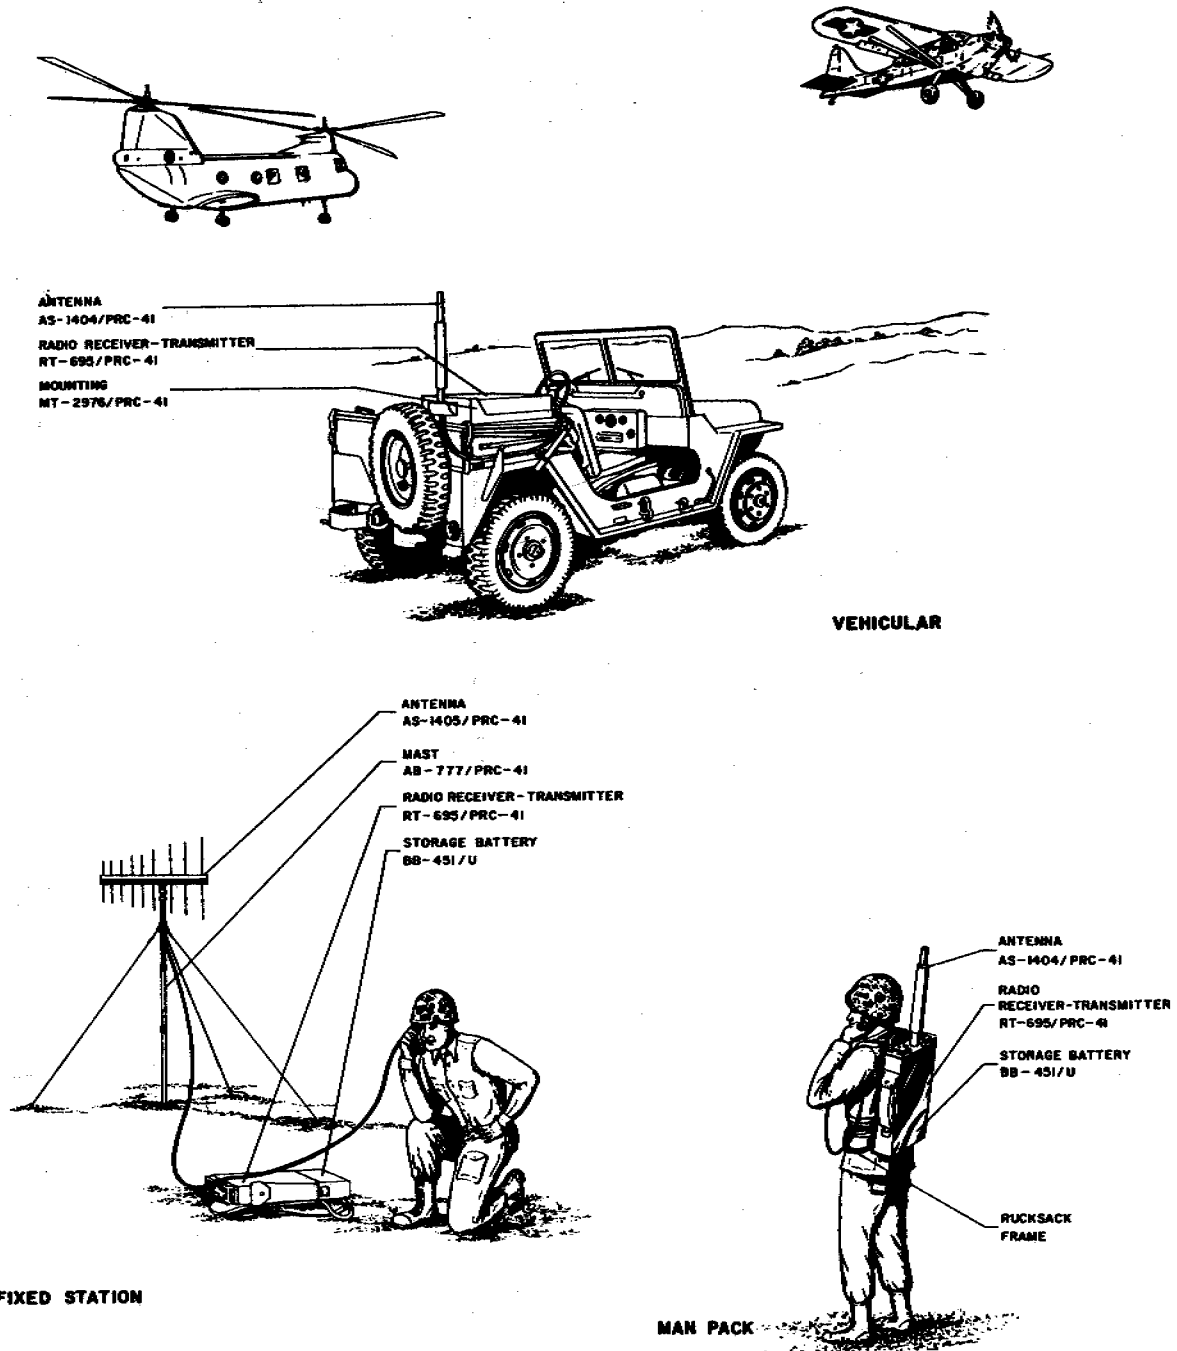
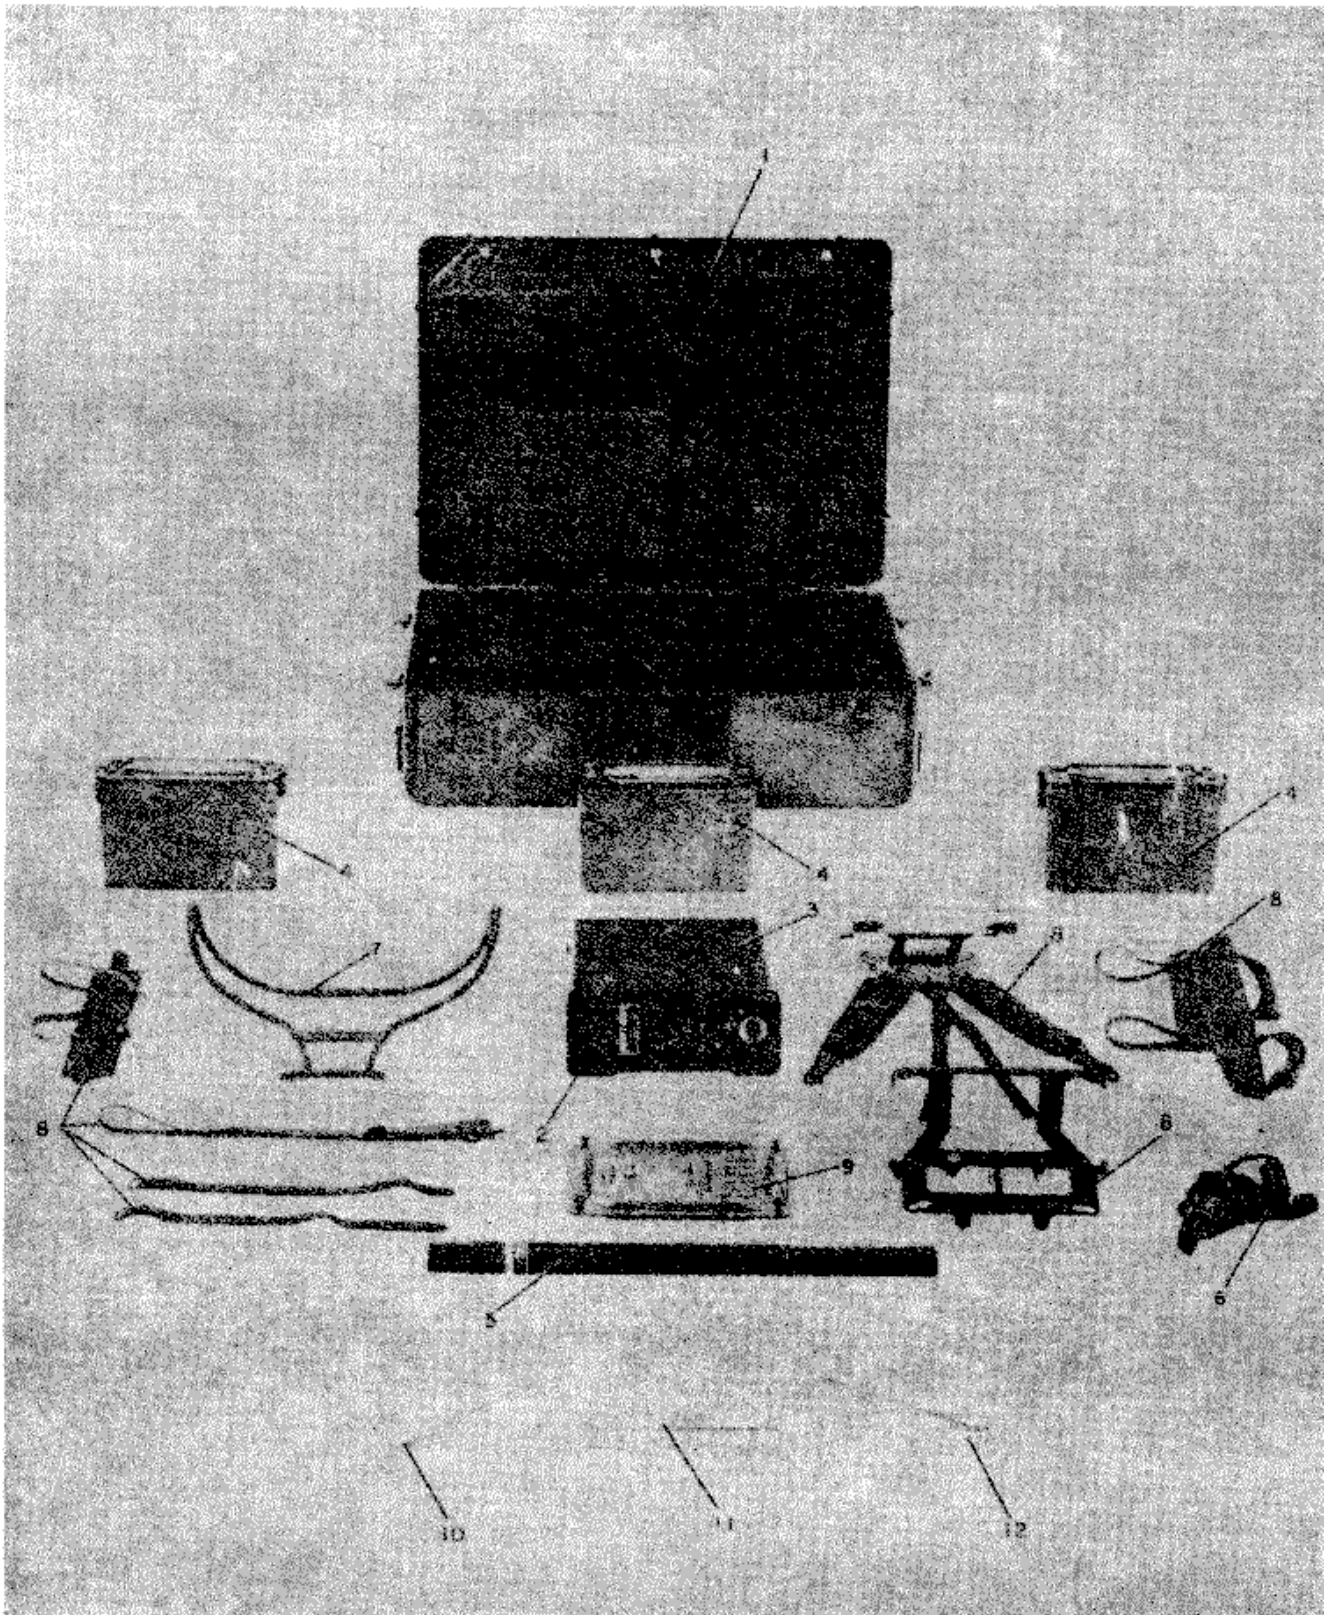
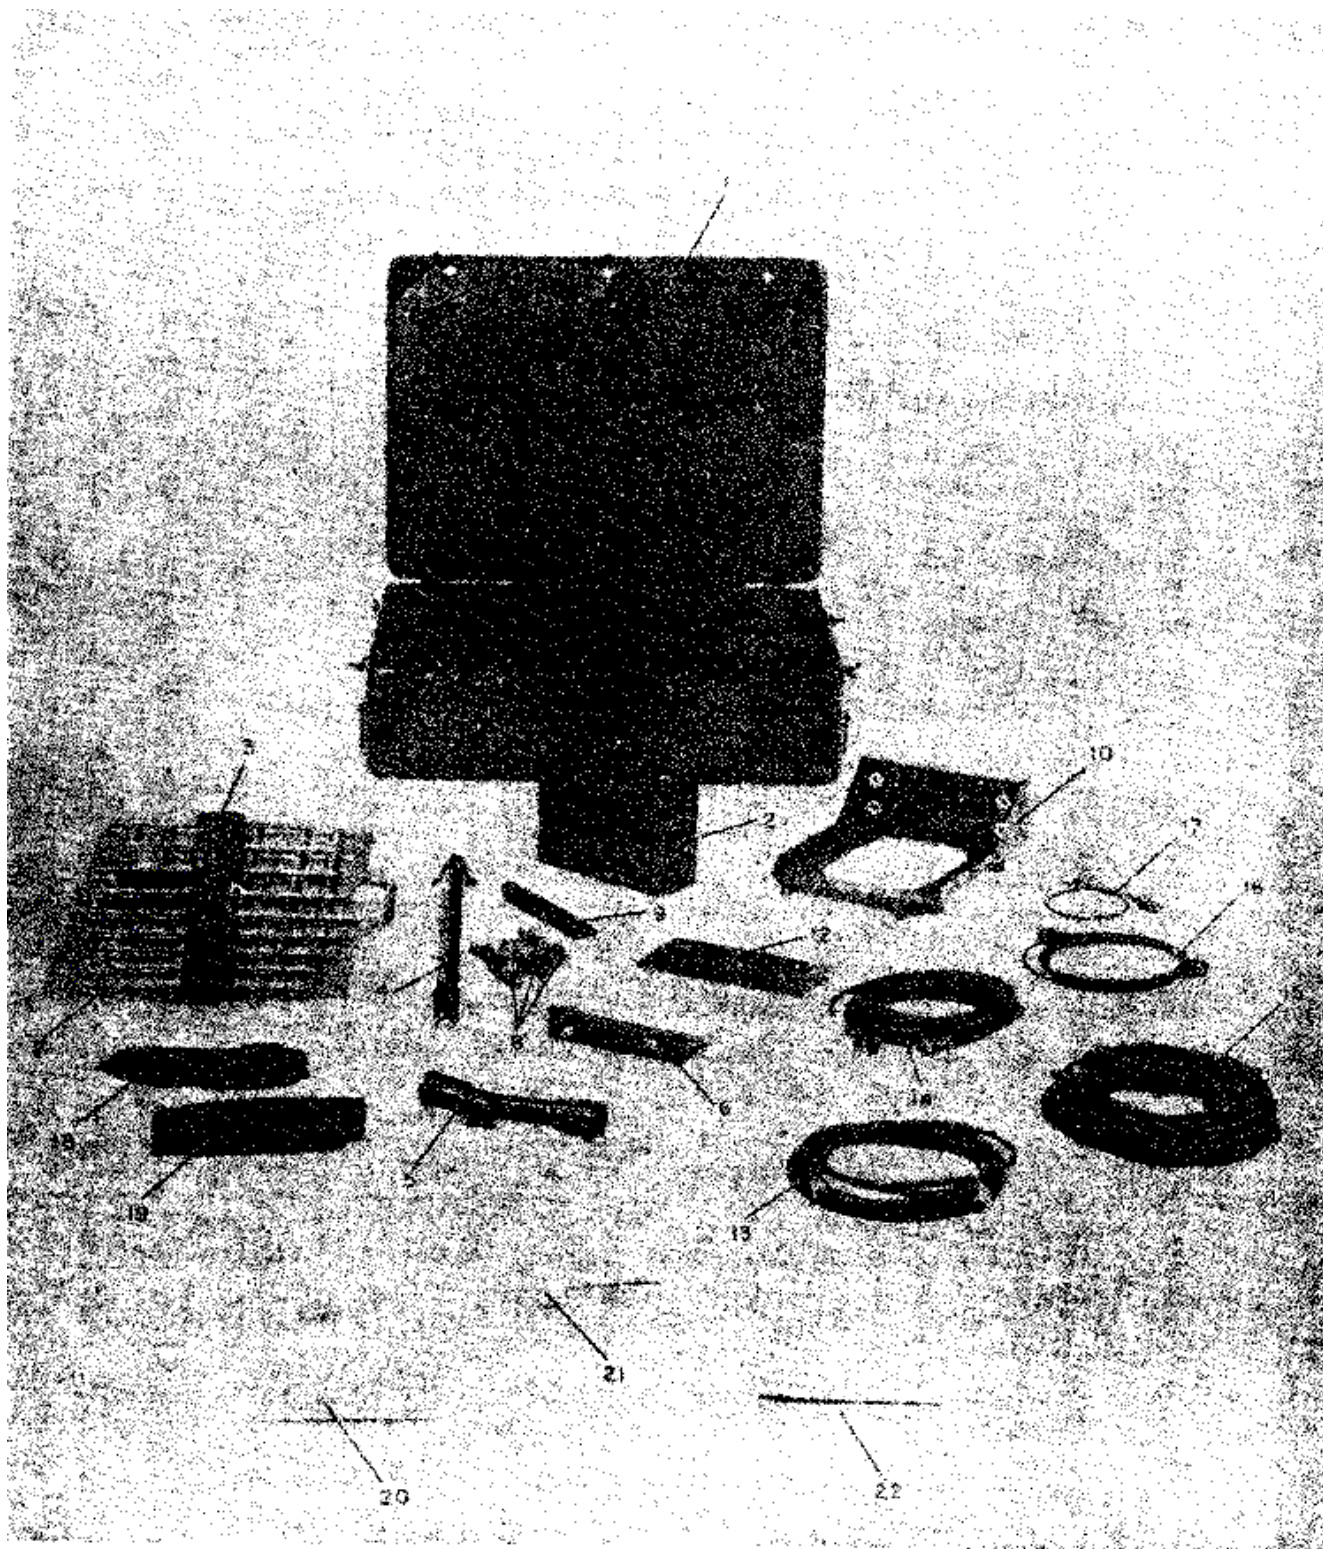

Figure 1-1. Radio Set AN/PRC-41, Operating Configurations
Figure 1-2. Radio Set AN/PRC-41, Equipment Contents of Radio Set Case CY-3883/PRC-41
Figure 1-3. Radio Set Accessory Kit MK-706/PRC-41, Accessory Contents of Electronic
Radio Set AN/PRC-41 consists of the equipment contained in Radio Set Case CY-3883/PRC-41. Refer to table 1-1 and figure 1-2. Radio Set Accessory Kit MK-706/PRC-41 consists of the equipment contained in Electronic Equipment Case CY-3885/PRC-41. Refer to table 1-2 and figure 1-3. Refer also to figure 1-1.
Radio Set AN/PRC-41 is a lightweight, portable uhf receiver-transmitter equipment. The versatility of this equipment permits man-pack, fixed station, or vehicular operation. Refer to figure 1-1. The items and accessories of Radio Set AN/PRC-41 are listed in table 1-1. This equipment is stored for transit in Radio Set Case CY-3883/PRC-41 and Electronic Equipment Case CY-3885/PRC-41. Refer to figures 1-2 and 1-3. Radio Set Case CY-3883/PRC-41 contains the items necessary for man-pack operation. Electronic Equipment Case CY-3885/PRC-41 contains the accessory items required for fixed station or vehicular operation, and maintenance items such as tools and extender cables. Radio Receiver-Transmitter RT-695/PRC-41 of Radio Set AN/PRC-41 may be operated on any one of 1750 channels, spaced 100 kc in the 225.0- to 399.9-mc range. In transmit operation, the equipment uses type A3 (AM voice) emission and provides an average of 3 watts across the frequency range. All controls are an integral part of the front panel of Radio Receiver-Transmitter RT-695/PRC-41. These controls provide frequency selection, application of power, and adjustment of volume and squelch levels. Automatic relay operation may be provided when two Radio Receiver-Transmitter RT-695/PRC-41 equipments are operated together. Cabling is provided to permit remote operation. Primary power may be provided by either Storage Battery BB-451/U or Power Supply PP-3700/PRC-41. The equipment may use directional Antenna AS-1405/PRC-41 or omnidirectional Antenna AS-1404/PRC-41.
a. GENERAL. - Radio Set AN/PRC-41 is considered to include Radio Set Case CY-3883/PRC-41 and its contents. Refer to figure 1-2. Radio Set Accessory Kit MK-706/PRC-41 is considered to include Electronic Equipment Case CY-3885/PRC-41 and its contents. Refer to figure 1-3. The following paragraphs of this subsection provide physical, electrical, and functional descriptions of Radio Set Case CY-3883/PRC-41, Electronic Equipment Case CY-3885/PRC-41, and their contents.
(1) RADIO SET CASE CY-3883/PRC-41. Radio Set Case CY-3883/PRC-41 is a compartmentalized aluminum transit case used for storage of the items of Radio Set AN/PRC-41 which are required for man-pack operation. It measures 15-1/2 by 35 by 26-1/2 inches and weighs 45 pounds. Refer to figure 1-2.